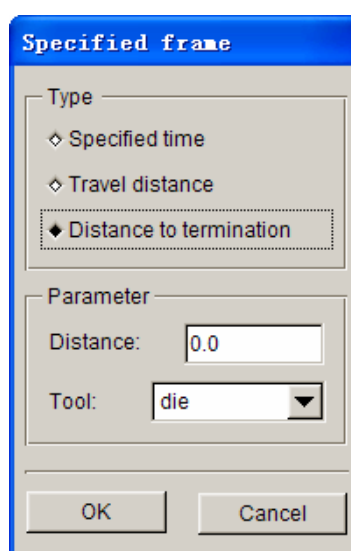

Figure 8.2.81 Define Specified Frame by Distance to Termination
**DISTANCE TO TERMINATION:** Add an output frame by defining the distance to the stage termination. See Figure 8.2.81 for the interface of this option. The user may select a reference tool in TOOL pulling-down list, and then enter a distance value in the DISTANCE input box. This distance value is the distance of the tool from calculation termination.